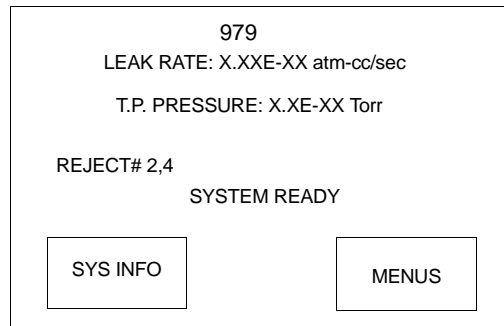

Figure 3-10 979 Touch Panel Home Screen
1. Verify that the leak detector is in the SYSTEM READY condition on the Home Screen (Figure 3-10) and that a test port cap is in place.
1. Verify that the leak detector is in the SYSTEM READY condition (Figure 3-10 on page 3-10) and that a test port cap is in place.